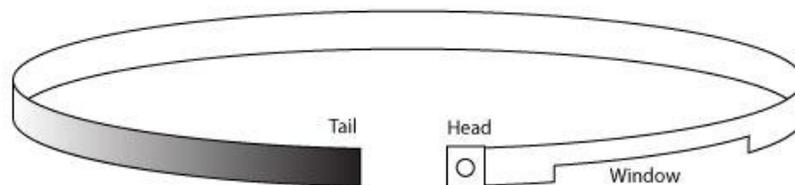

Figure 4: dendrometer orientation
6. Once you have recorded all of the initial information on to your data sheet, the next step is to install the dendrometer band. To do this see that your band has a head end, the folded end with a hole punched in it, and a tail end; the end with nothing on it. (see Figure 4)